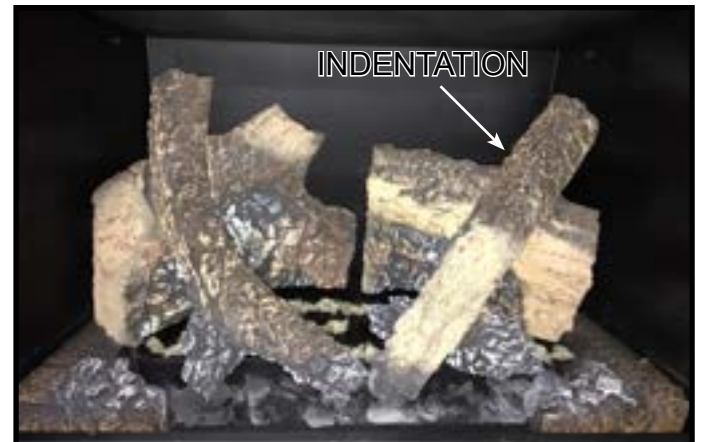

Figure 9. Top Right Log Installed - Log Set Complete
- Remove top right log from packaging. There are indentations located in the right rear log and small burner log to locate the log. Place log into indentations as shown in Figure 8 and Figure 9.